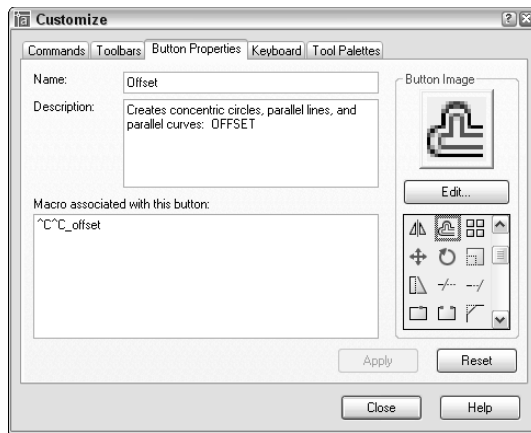

Figure 29-6: The Button Properties tab of the Customize dialog box.
3. Click the Properties tab of the Customize dialog box and then click the blank button to display the Button Properties tab of the Customize dialog box, shown in Figure 29-6.